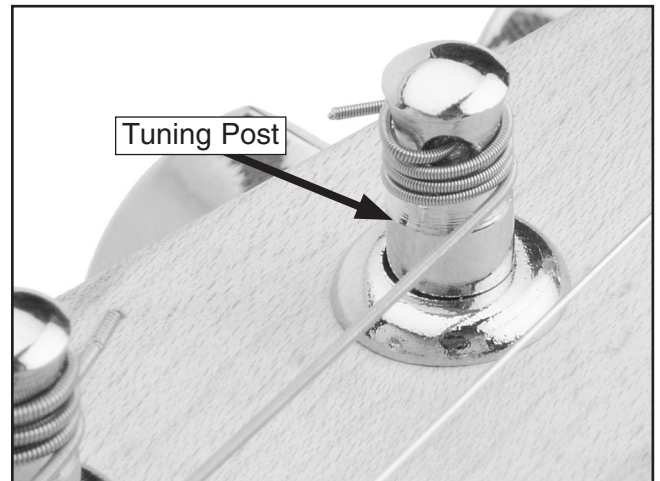

Figure 31. String wrapped around tuning post.
6. Rotate the tuners until the string just begins to hold the winding tension (**Figure 31**).